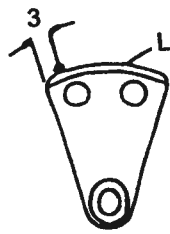

Fig.27-1
At this time ,loosen set screw(G)and adjust ridge forming disc(L) so that the end of this disc will be 3mm distant from the center of needle as per Fig27-1 for Models JK-T510,the location of the ridge forming disc is as shown in Fig.27-2.